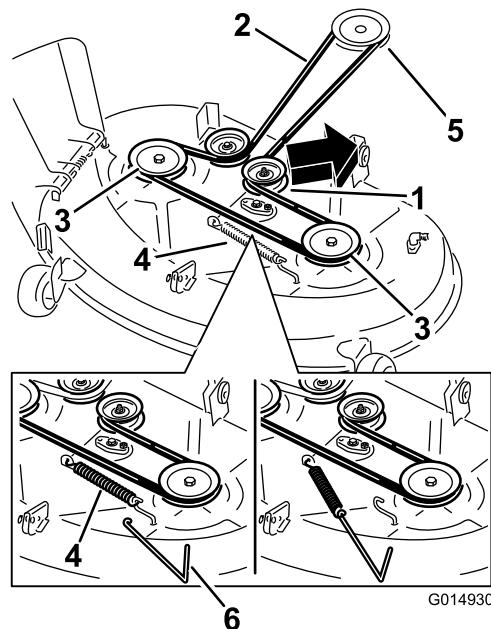
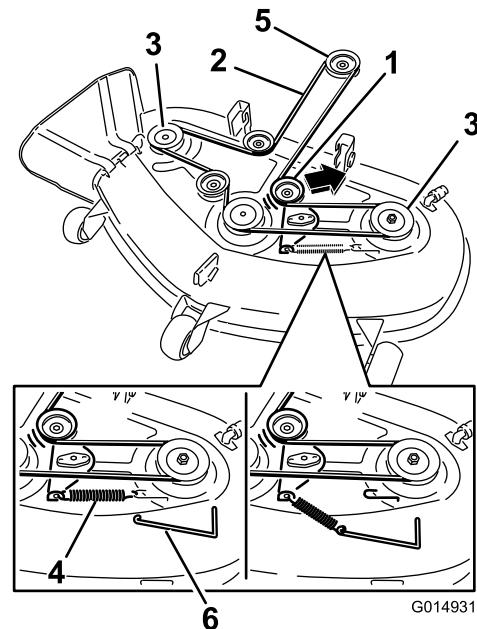

Figure 71
Figure 72
4. Using a spring-removal tool, remove the idler spring from the deck hook to remove tension on the idler pulley, and roll the belt off of the pulleys (Figure 71 and Figure 72).
5. Route the new belt around the engine pulley and mower pulleys (Figure 72).
- Using a spring-removal tool, install the idler spring over the deck hook, and place tension on the idler pulley and mower belt ((Figure 71 and Figure 72).